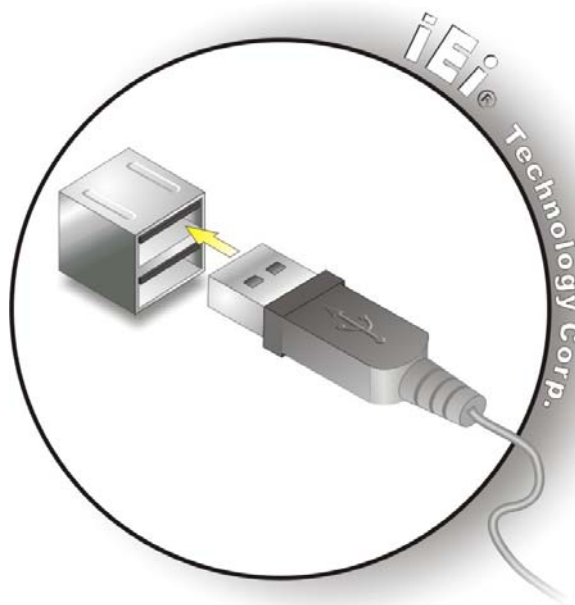

Figure 4-20: USB Connector
Step 2: Insert a USB Series "A" plug. Insert the USB Series "A" plug of a device into the USB Series "A" receptacle on the external peripheral interface. See **Figure 4-20**.